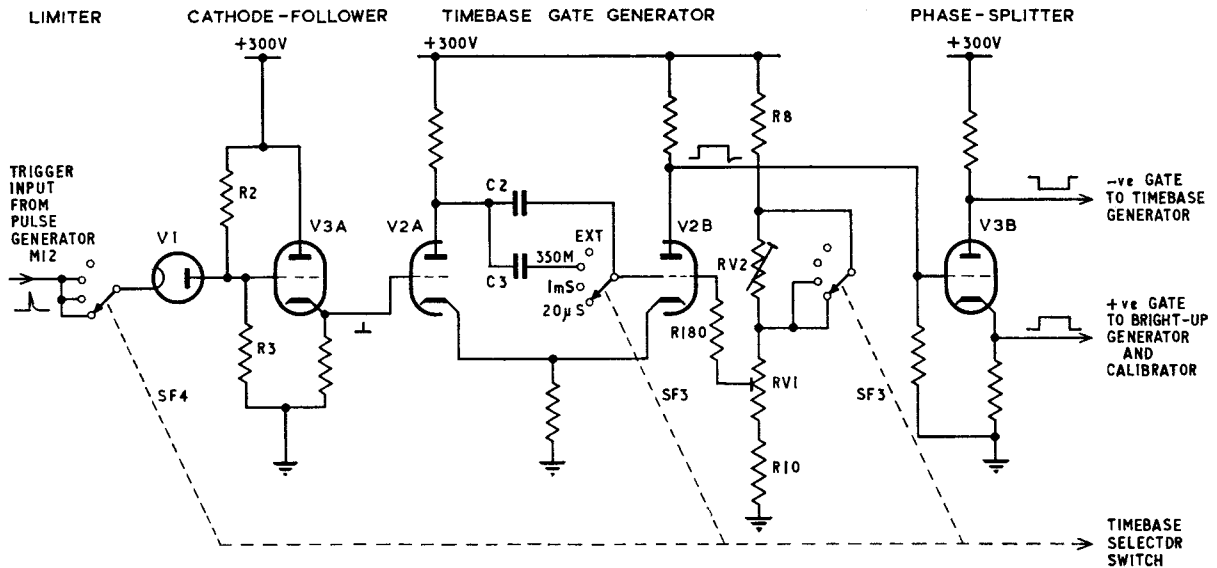

Fig. 3. Simplified diagram of trigger circuits
20. A simplified diagram of the timebase trigger circuits is shown in fig. 3. The positive-going 5 microsecond pre-pulse generated in the transmitter pulse generator unit M12 is applied via wafer 4F on the timebase selector switch and via a series diode limiter stage V1 to the grid of a cathode follower stage V3a. This stage provides a low-impedance trigger source for the timebase gate generator V2. The diode limiter is positively biased by the potentiometer network R2, R3 to limit the amplitude of the trigger pulse at V3a cathode to about 35V, this prevents any variation in amplitude of the input pulse from affecting the operation of the gate generator.